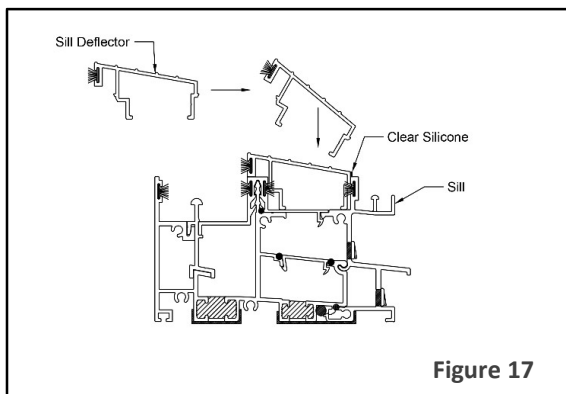

Figure 17
4.1 Angle sill cover bottom into jamb first, tight against foam and slowly lower another end down (figure 17).